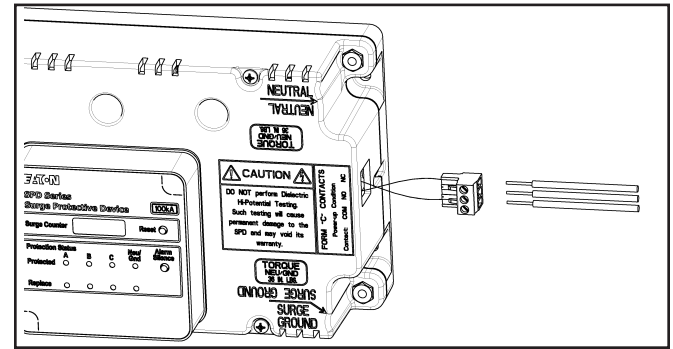

Figure 13. Form C Connection
- The SPD (Standard and Standard with Surge Counter models) also has an available connection for remote monitoring of the Form C relay contacts. See Figure 13. This is a green connector located on the side of the SPD. To make the connection, remove the green connector and install the remote monitor leads (connector supports 12-24AWG wire). Fasten the remote monitoring wires to the N.O., N.C and COM connection points per the label on the front of the SPD. Contacts are rated: 150 Vac or 125 Vdc at 1A. Follow all national, state and local electrical codes. With wiring complete, plug the green connector into the SPD.
Some SPD units have a Form C relay contact that allows for the remote indication of SPD status. Form C contact wires are connected via a three terminal connector. See Figure 13.